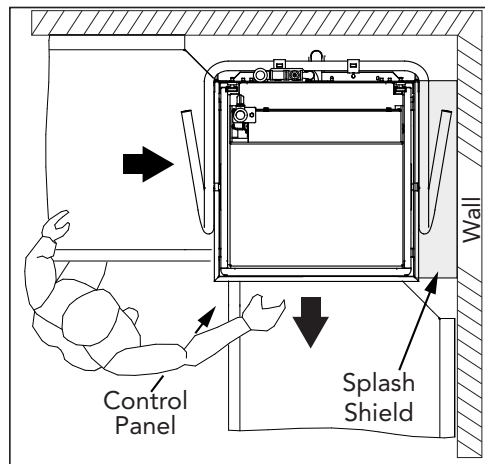

Fig. 1
**KIT PARTS:** (1) SHIELD, CORNER SPLASH, P/N 337955, COMPOUND SEALING, P/N 104889, (2) SCREWS, 10-32 X 1/2" TRUSS HEAD, P/N 100097, (2) WASHER, FLAT, 10-32, P/N 107033, NUT, GRIP, 10-32 W/NYLON INSERT, P/N 107966
1. The splash shield is installed on the right-hand side of the dishwasher, (Fig.1).